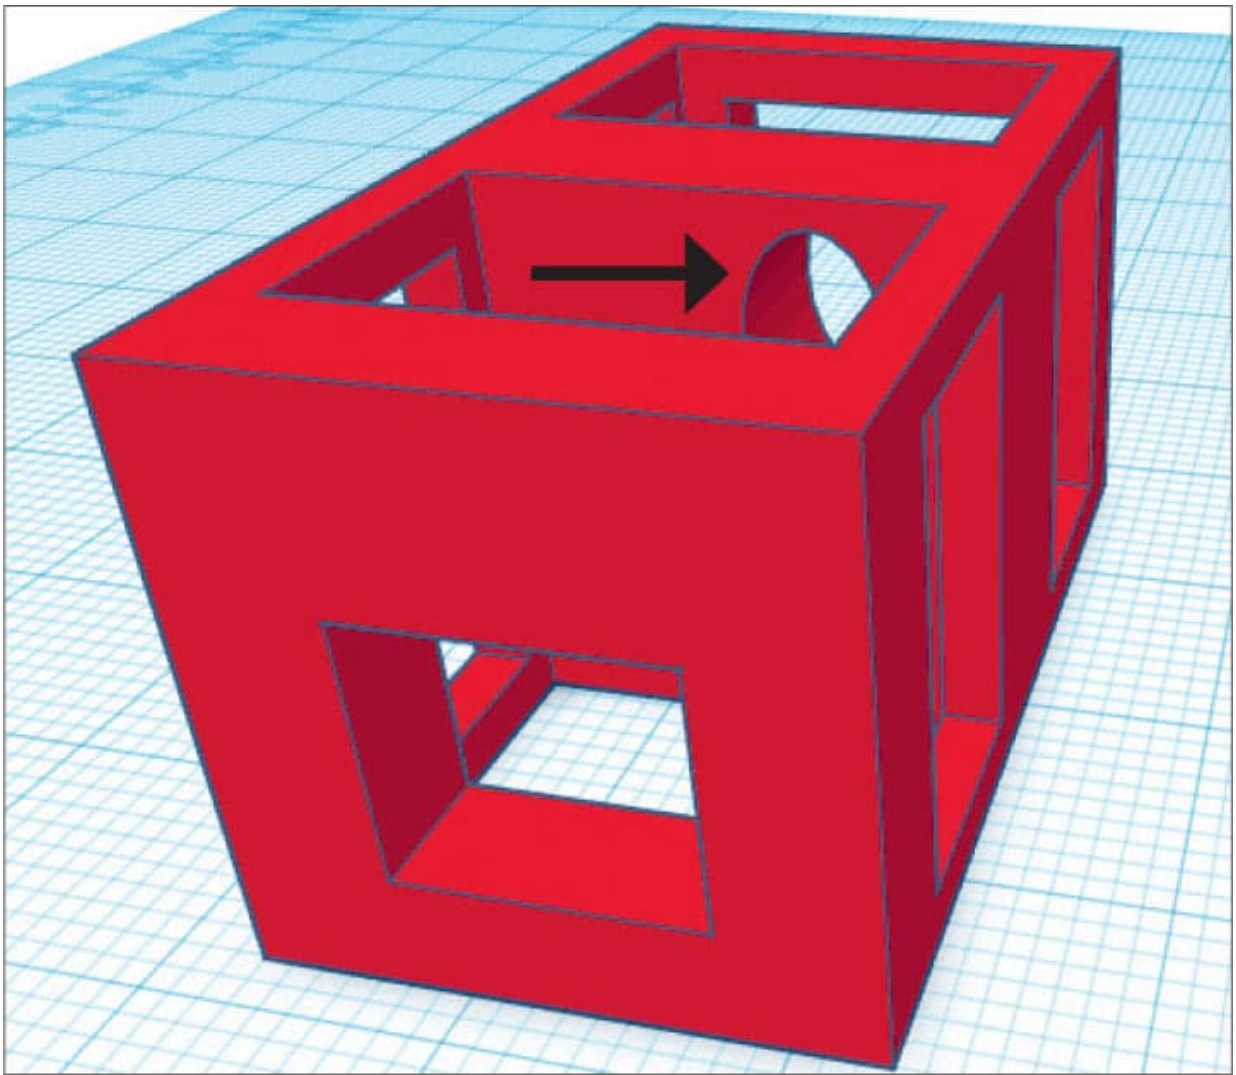

FIG. 3: *Add an offset hole in the central beam.*
2. Create an offset hole in the central beam. Again, this hole can be located in any corner and can be of any shape. The objective is to make the water that enters the frame change direction and slow down (fig. 3).